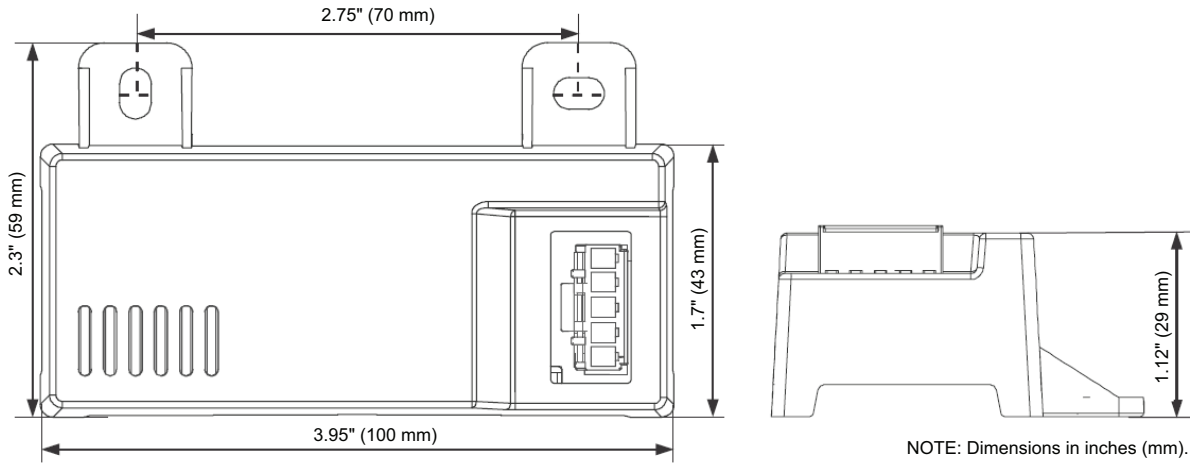
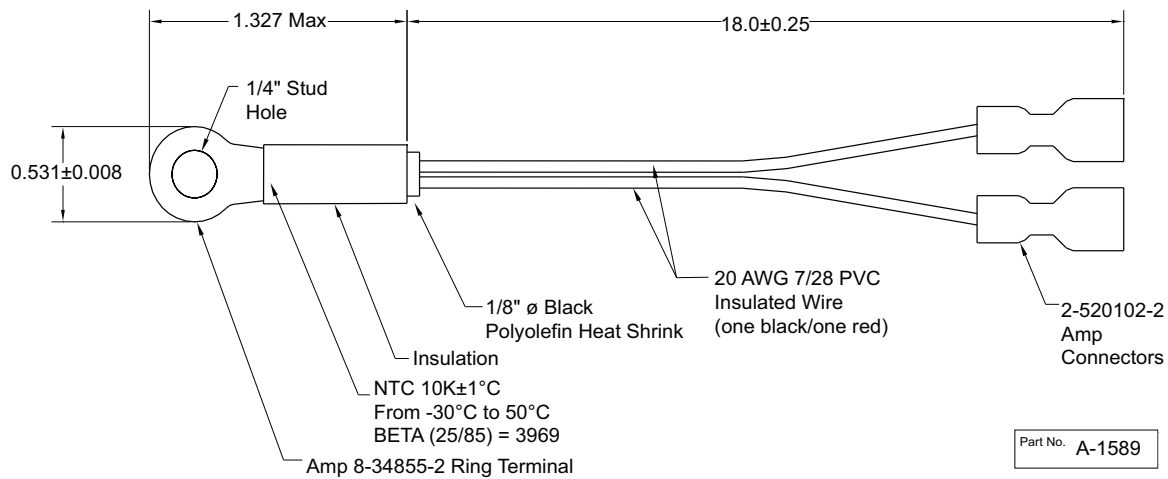
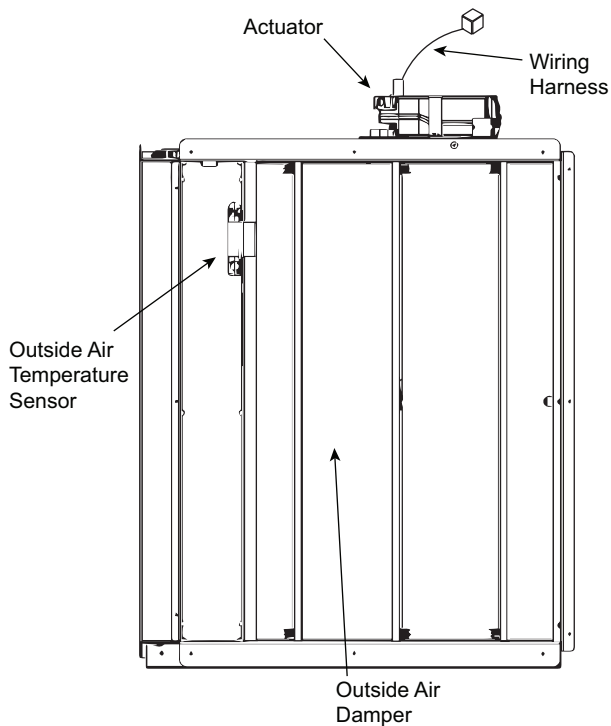

Fig. 63 — HH57LW001 Dimensional, Connection and Switching Information
Fig. 64 — HH79NZ039 Dry Bulb and Mixed Air Sensor Wiring
Fig. 65 — EconomizerONE Component Locations (CRECOMZR108A00 Shown)
When using the HH57LW001 enthalpy sensor (see Fig. 63) for outside air changeover, the existing HH79NZ039 dry bulb sensor (see Fig. 64) must be removed. The enthalpy sensor will be mounted in the same location as the dry bulb sensor (see Fig. 65). When the enthalpy sensor's OA (Outside Air) temperature, enthalpy, and dew point are below their respective setpoints, the outside air can be used for free cooling. When any of these are above the setpoint, free cooling will not be available. Enthalpy setpoints are configurable and create an enthalpy boundary according to the user's input. For additional details, see Fig. 66-67 and Table 29.
The optional enthalpy control sensor (P/N: HH57LW001) communicates with the POL224 economizer controller using the 5-wire harness, 48TC005213. The HH57LW001 sensor can be used as a single outside air enthalpy, a differential return enthalpy, or a differential return temperature sensor. Refer to the base unit control wiring diagrams found earlier in this book to wire the HH57LW001 enthalpy sensor for each option. Use Fig. 63 and Table 31 on page 50 to locate the wiring terminals for each enthalpy control sensor.
Economizers are shipped standard with an HH79NZ039 outside air dry bulb sensor (see Fig. 64). System default setting (high temp limit) is 63°F (17°C) and has a range of 48°F to 80°F (9°C to 27°C). Sensor is factory installed on economizer.
If installing the optional HH57LW001 enthalpy sensor, the HH79NZ039 dry bulb outside air sensor must first be removed. Wire sensor to harness 48TC005213 and the (5) wires from the harness to the EconomizerONE harness in the return air chamber. Harness 48TC005213 has a 5-pin plug that connects directly to the HH57LW001 enthalpy sensor. Refer to the base unit control wiring diagrams earlier in this book for wiring connections. Refer to Fig. 63 and Table 31.